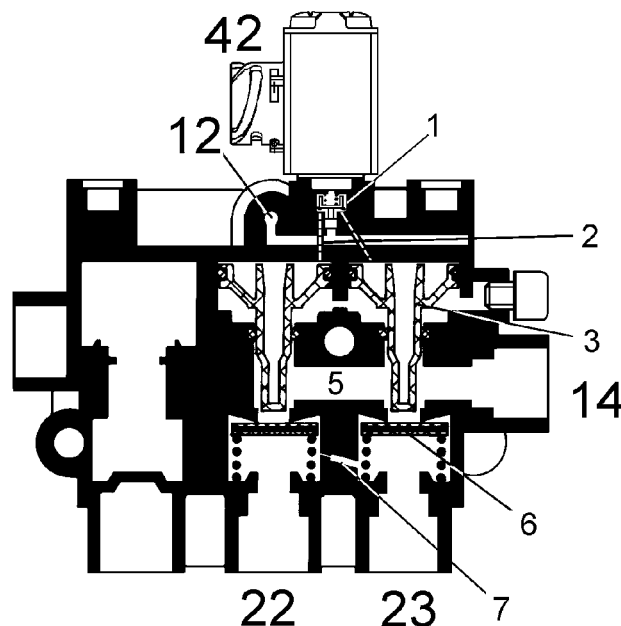

Fig. 28 Cross-Section of an ECAS Solenoid Valve with Spring-Returned Seat Valves for the Front Axle (Steering Axle)
- If, on the other hand, ECAS controls the axle as one unit (1-point controlled axle) one individual solenoid actuates two 2/2-way valves (↑ Fig. 28).